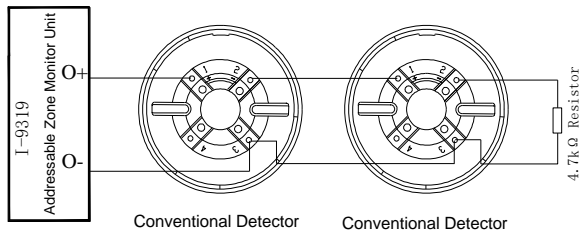

Fig. 6
3. If the output end connects with end-of-line resistor, the diode will not be added to the detector base, system connection is shown in Fig. 6.